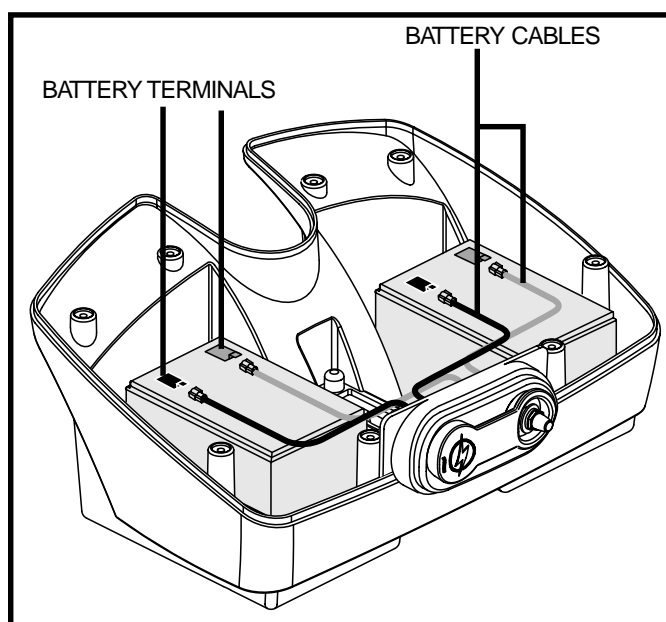

Figure 12. Battery Replacement
3. Remove the eight (8) screws from the perimeter of the battery pack.
5. Disconnect the black (-) and red (+) battery cables from the battery terminals on each battery. **See figure 12.**